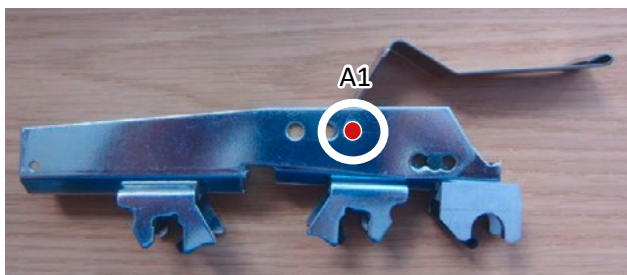

Fig. 6
- Fix the new *EliSpring* for top arm type P3-1 (10955853) with the magnetic auxiliary pin* (10978005) \varnothing 6 x 20 mm (Fig. 6).
- Insert the auxiliary pin in the correct position **A1** as shown in Fig. 6.